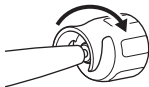

Figure 8
- 5) To remove the tip, follow steps 3) to 4) above. Turn the tip wrench in the direction of the arrow to remove the tip. (Figure 8)